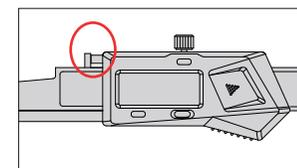

fig.4
--- Pull the ruler, move the taper gage to the location point and press zero button to set zero (fig.4).